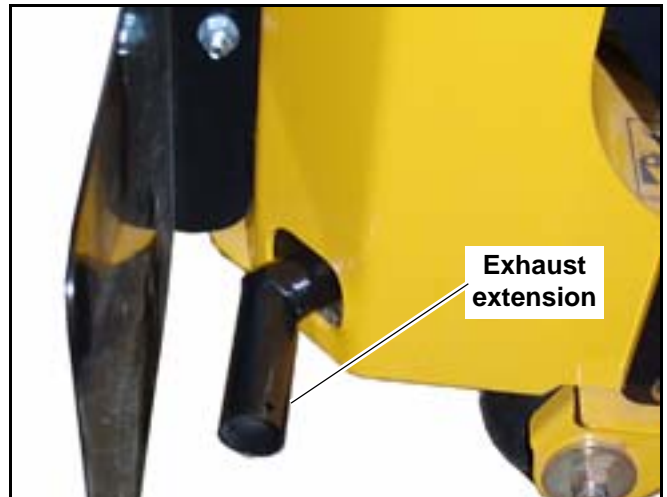

Figure 3-12
8. Slide the exhaust extension onto the muffler exhaust tube. Rotate the extension so the hole is located on bottom and drill a 5/32" dia. hole in the muffler tailpipe. Attach the exhaust extension using the screw per Fig. 3-12.